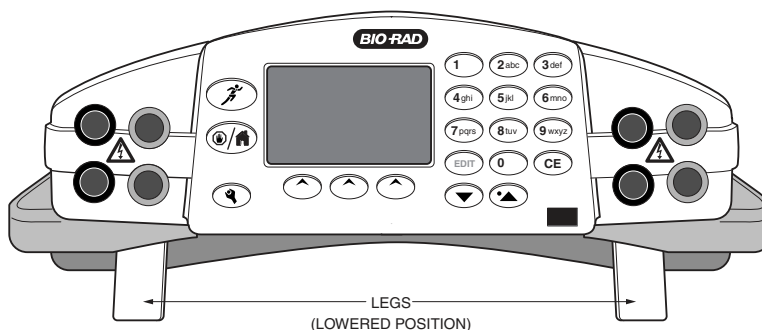

Fig. 3. Front panel with legs.
- Nine (9) programmed runs, each containing up to nine steps
- Stackable case with adjustable viewing angle (Figure 3)